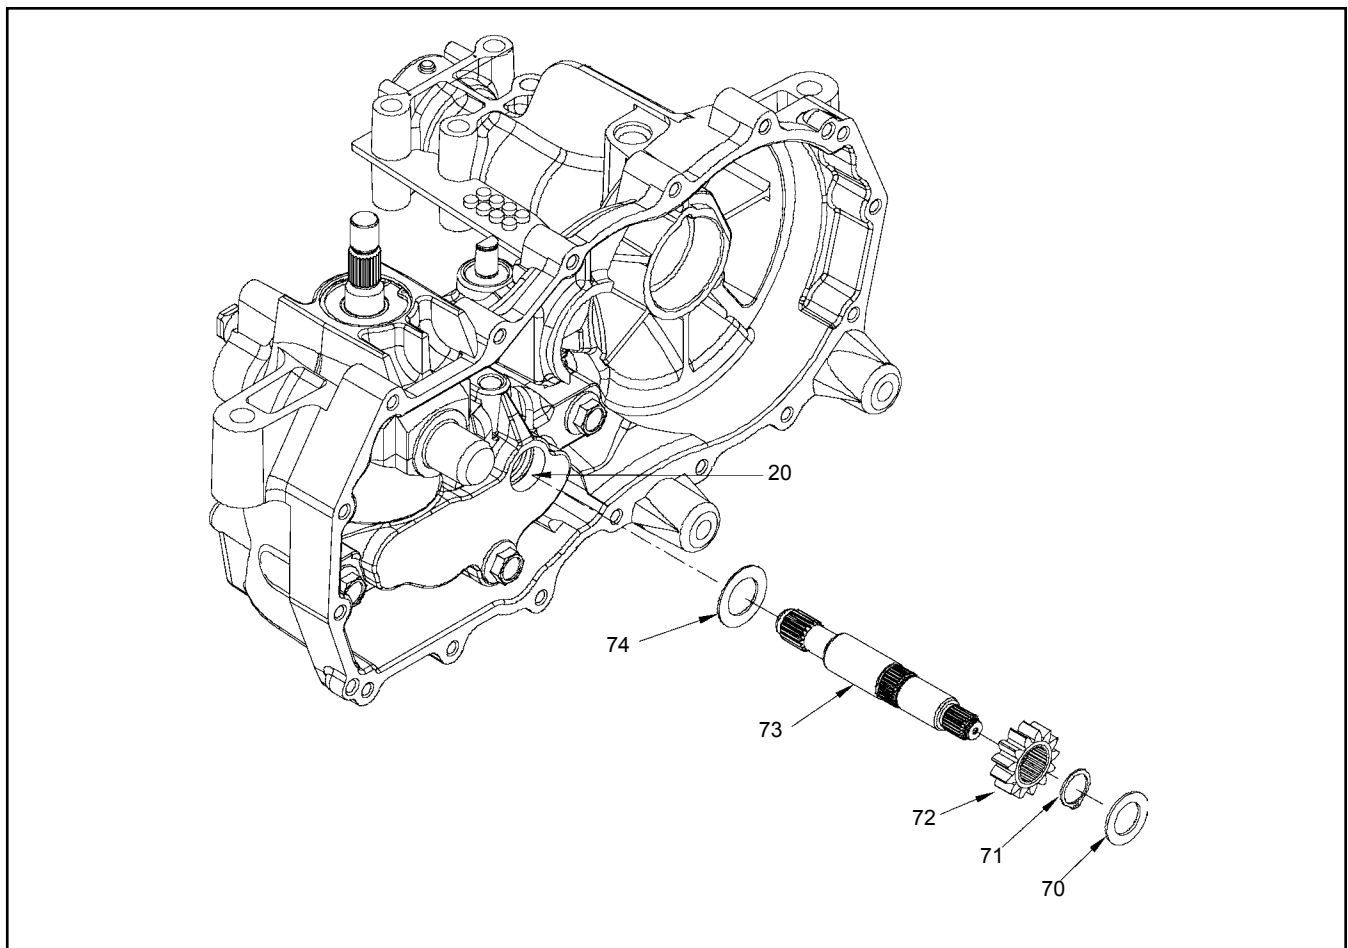
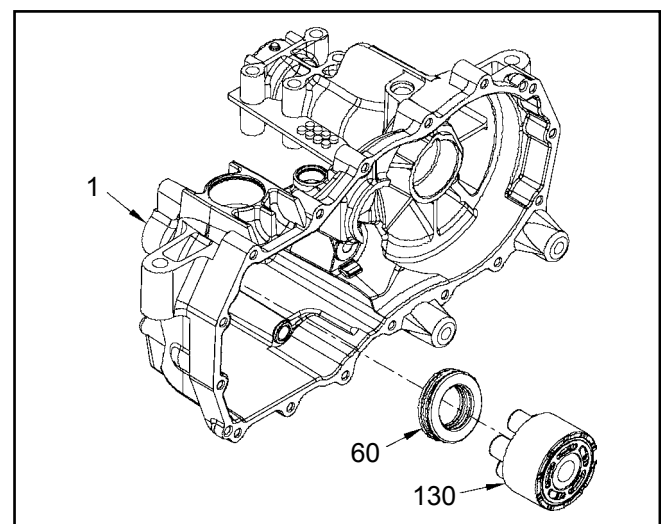
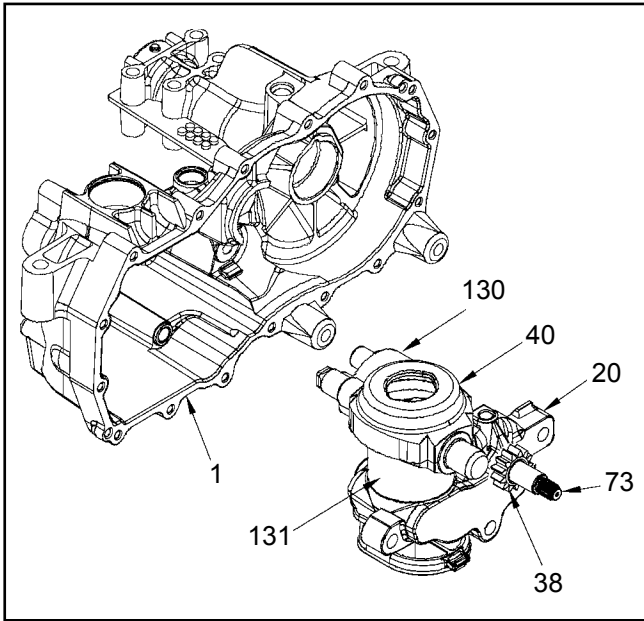

Figure 8. Motor Shaft
Figure 17.
Figure 18.
Refer to Figure 8.
17. **(See Figure 17)** Remove the motor cylinder block assembly (130) from the housing (1).
18. Disassemble the motor cylinder block assembly (130). Check each piston for proper operation by pressing the pistons in and releasing them in the block bore. Disassemble the motor cylinder block. Check for piston/block wear in the cylinder bore. Inspect the pistons, piston springs and thrust washers for excessive wear or damage.
1. **(See Figure 17)** Turn the housing (1) so the motor thrust bearing cavity is facing up. This will assist in the installation of the motor thrust bearing assembly (60) keeping it in the bearing cavity during installation of the center section assembly (20, Figure 18).
2. Insert the thrust bearing (60) in the housing (1). NOTE: Place the thin race of the bear-
6. **(See Figure 8 & 18)** Install the motor shaft (73), pinion gear (72) and flat washers (74 & 70) into the center section (20).
7. Assemble the motor block assembly (130) onto the motor shaft (73).
8. **(See Figure 18)** Install the motor shaft, center section and motor block assembly into the housing so that the motor block pistons contact the thrust bearing race. NOTE: Hold in place and insure all pistons are still positioned correctly in the cylinder bore by confirming spring bias against the center section.
14. *Care must be taken to prevent the scaring or scratching of the center section sealing face during this step.* Insert the shaft of the swashplate/pump block assembly (Figure 18) into the housing while simultaneously compressing the pistons in the block. NOTE: To assist in the installation of these components, insert the assembly until 3/4 of the pump block is covered by the center section. Then slightly press the shaft end toward the center section while pushing the shaft into its bore.